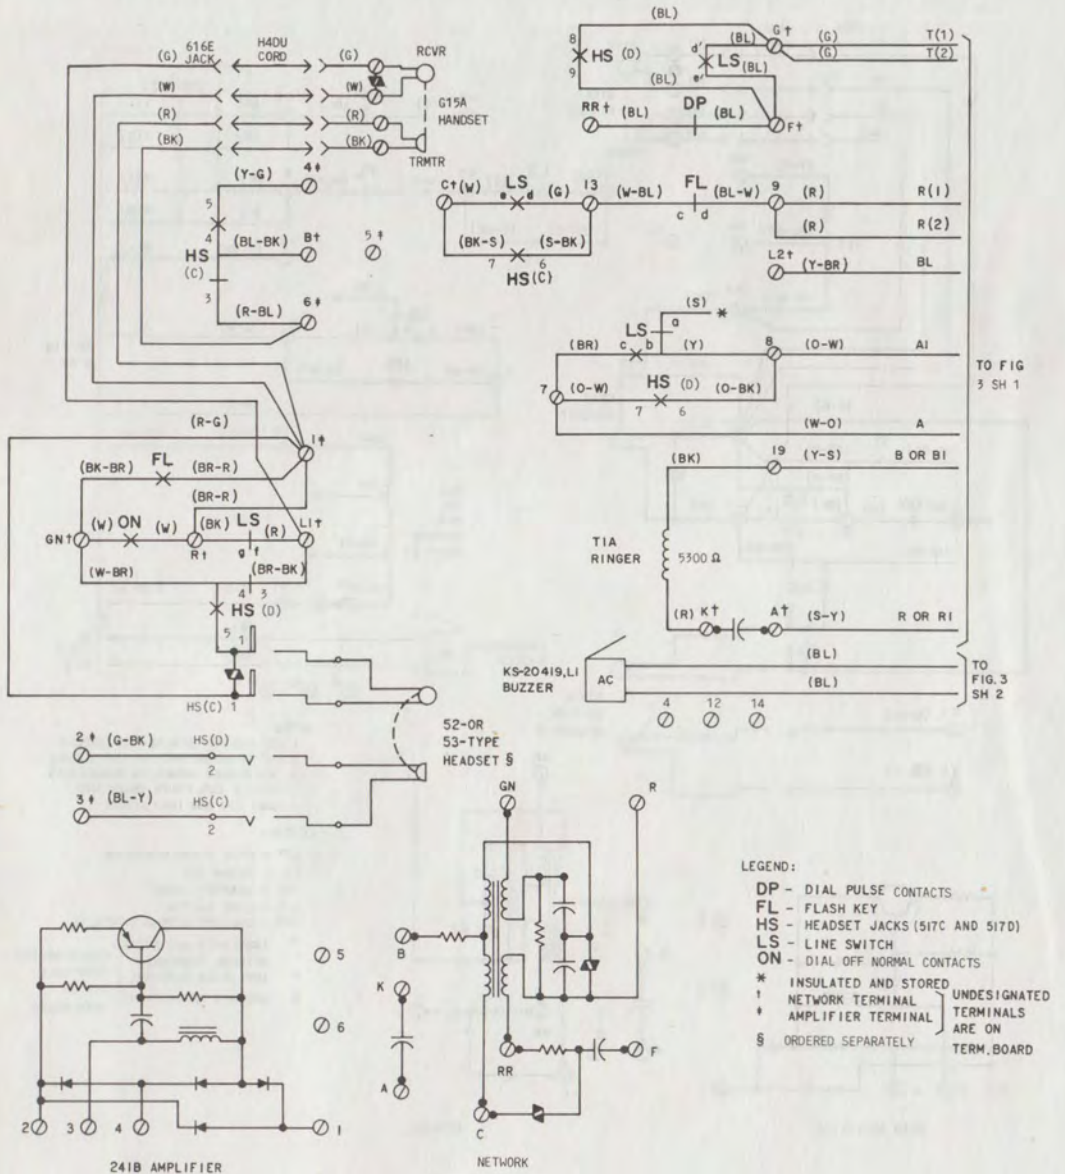

Fig. 2—636CAMS and 637DAMS Telephone Set, Connections
1.04 The 636CAMS1 and 637DAMS1 sets (Fig. 2) are furnished equipped with a new line switch which breaks both the tip and ring side of the line instead of the ring side only.♦